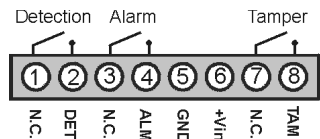

Figure 2: Wiring Connections
6. Connect the wires to the terminal block as shown in Figure 2.
Figure 2: A typical installation where the detector is 5cm from the wall and 2m from the protected window. The top two diagrams show the lens coverage pattern for the detector when incorrectly adjusted to -2 and 0. The bottom diagram shows the PCB correctly adjusted to +2.